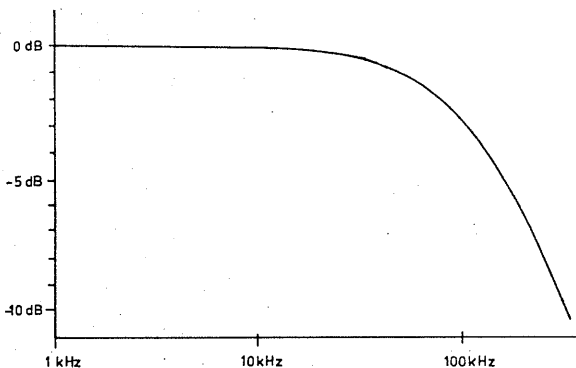

Fig. 3-3
Frequency response of meter indication when in the filter-in state is shown in Fig. 3-3.
- 7) For measurement at a high sensitivity, connect the 100 kHz low pass filter (-3 dB at 100 kHz) by depressing pushbutton ⑦ of Fig. 3-3, in order that the input signal can be measured with low noise. This feature is especially advantageous when the signal source impedance is high.